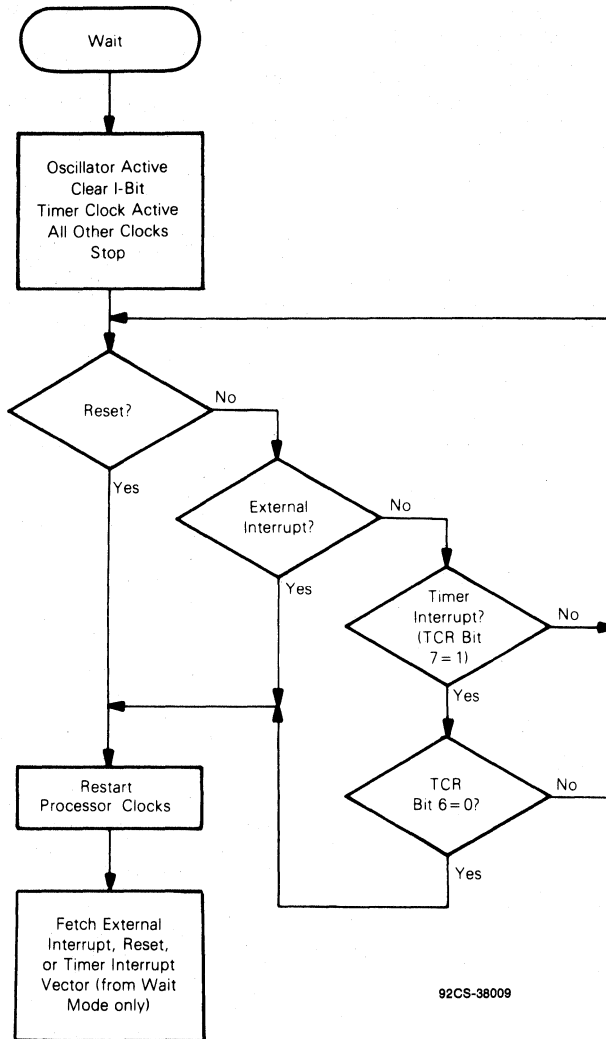

Fig. 17 - WAIT function flowchart.
**WAIT** — The WAIT instruction places the CDP6805F2 in a low-power consumption mode, but the WAIT mode consumes somewhat more power than the STOP mode. In the WAIT mode, the internal clock is disabled from all internal circuitry except the timer circuit; refer to Figure 17. Thus, all internal processing is halted, however, the timer continues to count normally.